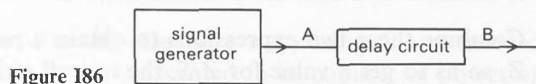
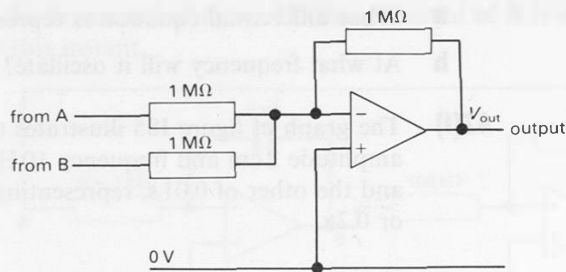

Figure I86
Figure I87
- 43(R)** A signal generator is connected to a circuit which produces a delay of 0.01 s, *i.e.* its output is identical in amplitude to its input but occurs 0.01 s later (figure I86).
Suppose the input signal (at A in figure I86) and the delayed signal (at B) both have an amplitude (peak value) of 1 V. The points A and B are then connected to a summing amplifier as shown in figure I87.